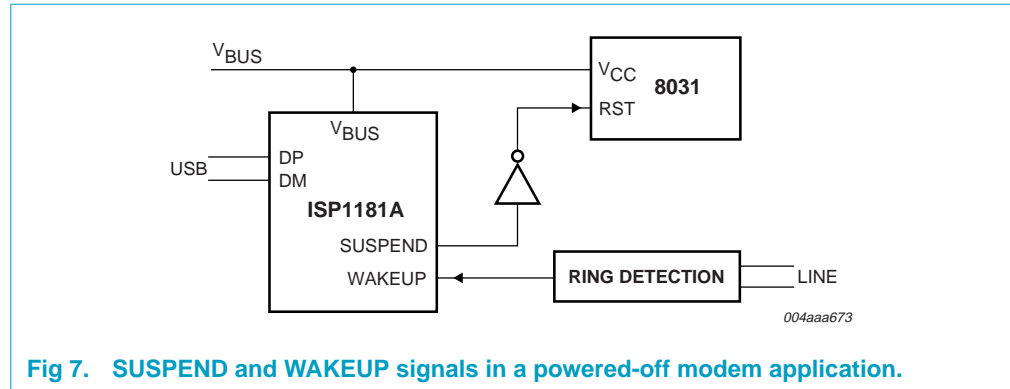

Fig 7. SUSPEND and WAKEUP signals in a powered-off modem application.
**Figure 7** shows a typical bus-powered modem application using the ISP1181A. The SUSPEND output switches off power to the microcontroller and other external circuits during the suspend state. The ISP1181A is woken up through the USB bus (global resume) or by the ring detection circuit on the telephone line.